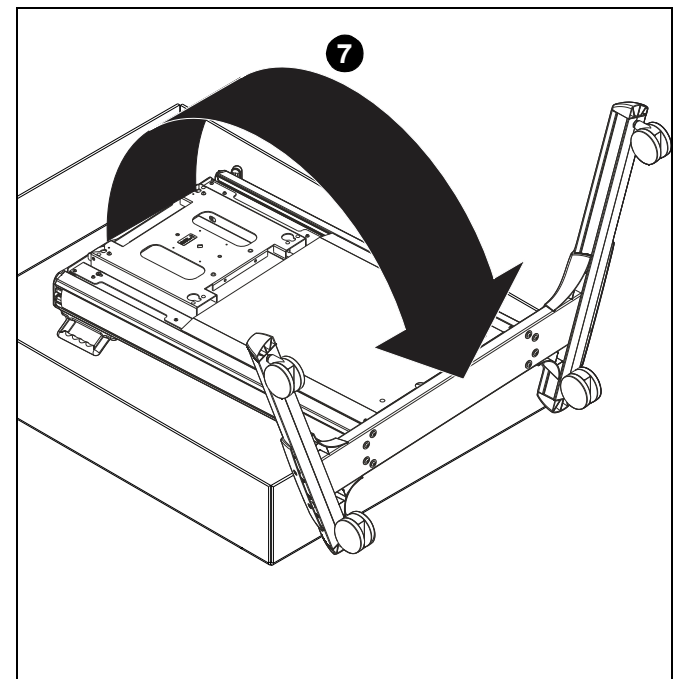

Figure 3
7. Remove cart from box by tipping it from the top onto its wheels. (See Figure 3)